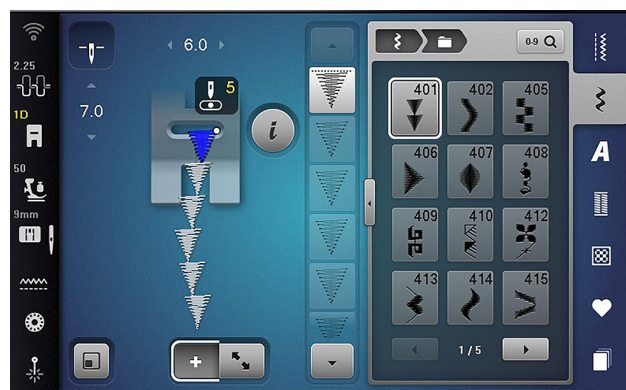

Fig. 14
13. Sew your final stitch combination (Fig. 14).